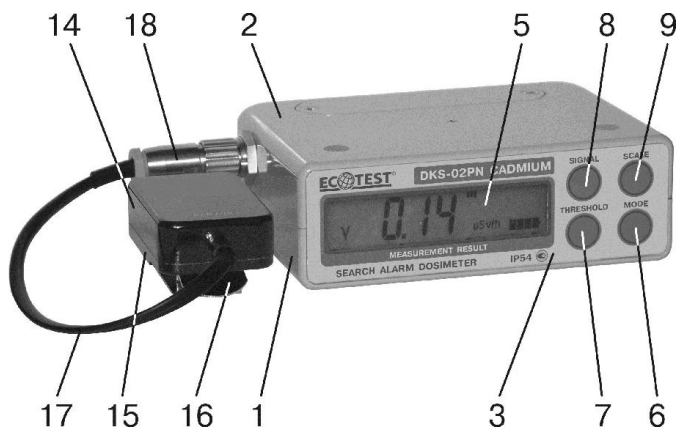

Figure 1 – Appearance of the control panel and the split warning device of the DKS-02PN "CADMIUM" dosimeter
1.4.1.1 Appearance of the dosimeter is presented in Figures 1, 2 and 3. The dosimeter consists of the control panel and the vibration-audible warning device, which is connected to the control panel with the help of a short cable with a split (hereinafter – split warning device). The delivery kit also includes the additional vibration-audible wrist warning device with Bluetooth radio channel (hereinafter – wrist warning device) that provides wireless connection to the control panel.
1.4.2.1 The control panel of the dosimeter is designed as a steel dust- and damp-proof housing. The operating position of the dosimeter is vertical (with indication and control elements upwards). The ingress protection rating is IP54. The housing of the control panel consists of (Figure 1, 2 and 3) the front (1) and the rear covers (2), the panel (3) and the battery compartment lid (4). The liquid crystal display (LCD) (5) and the MODE (6), THRESHOLD (7), SIGNAL (8), SCALE (9) buttons are located on the top panel. The split (10) for connecting the split warning device is adjusted on the left side wall. The compartment (11) for storage battery (12), which is closed with the lid (4) with the help of two captive screws (13), is located on the front cover. The leather case is used for fastening the control panel on a belt (not shown in figure).
1.4.2.2 The split warning device (Figure 1) is designed as a steel housing consisting of two covers (14 and 15) and a spring (16), which is intended for securing the warning device on a belt. To connect the warning device to the control panel, a cable (17) with a split (18) is provided.